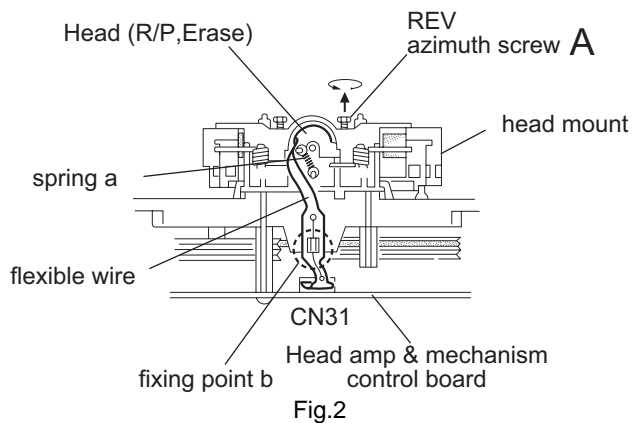
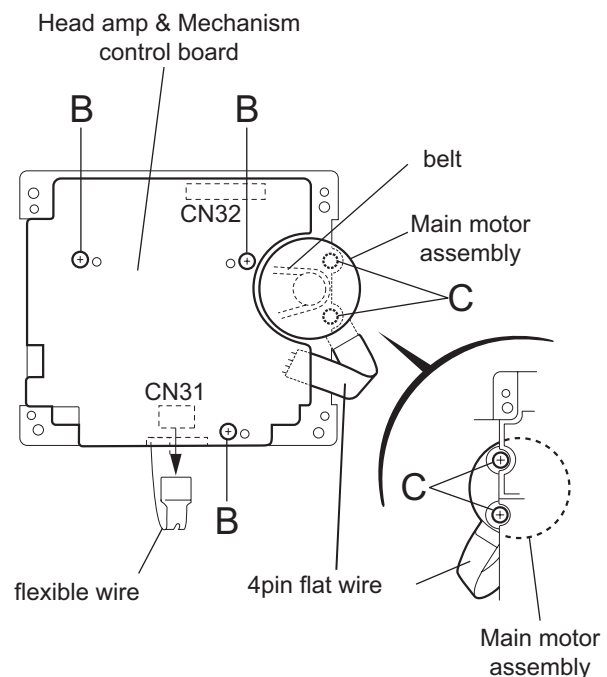

Fig.2
Fig.3
- (2) When the flywheel (R) is rotated in counterclockwise direction, the playback/recording & erase head will be turned in counterclockwise direction from the position in Fig.2 to that in Fig.3.
- (3) At this position, disconnect the flexible wire (outgoing from the playback/recording & erase head) from the connector CN31 on the head amplifier & mechanism control board.
- (4) Remove the flexible wire from the fixing point **b** on the chassis base.
- (5) Remove the spring **a** from behind the playback/recording & erase head.
- (6) Loosen the reversing azimuth screw **A** retaining the playback/recording & erase head.
- (7) Take out the playback/recording & erase head from the front of the head mount.
- (1) Reassemble the playback/recording & eraser head from the front of the head mount to the position as shown in Fig.3.
- (2) Fix the reversing azimuth screw **A**.
- (3) Attach the spring **a** from behind the playback/recording & eraser head.
- (4) Attach the flexible wire to the fixing point **b** on the chassis base.
- (5) Attach the flexible wire (outgoing from the playback/recording & eraser head) to the connector CN31 on the head amplifier & mechanism control board.